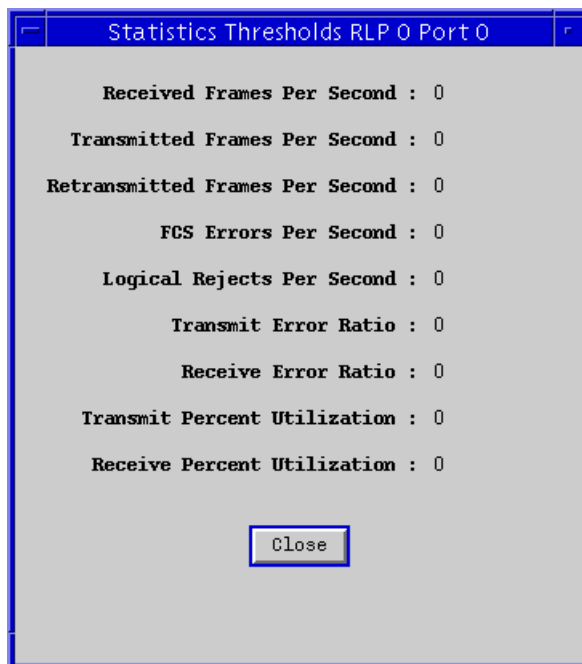

Figure 2-16. The Port Statistics Thresholds Window
2. Drag down to **Thresholds**, and release. The Port Statistics Thresholds window, Figure 2-16, will appear.